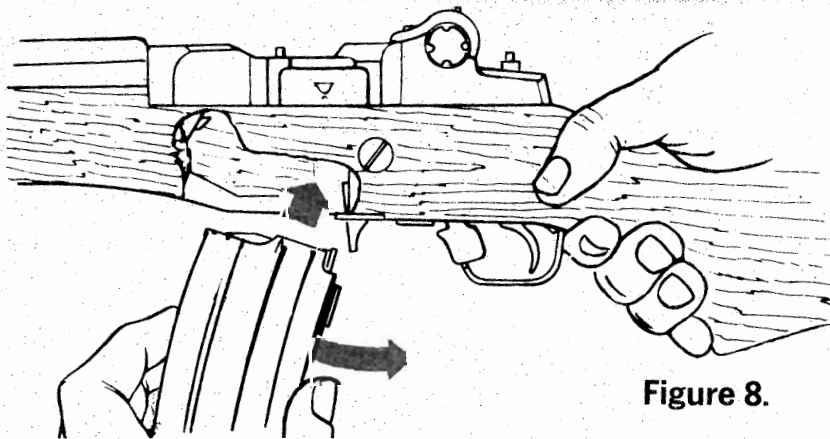

Figure 8.
e. **INSERTING THE MAGAZINE** — See Figure 8. The magazine may be inserted with the bolt in either the closed or open position.